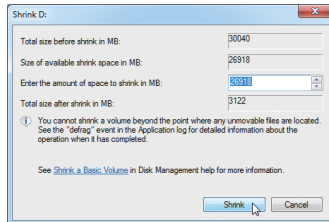

Figure 2
- Step 4: When completed, click **Shrink**. (Figure 2)